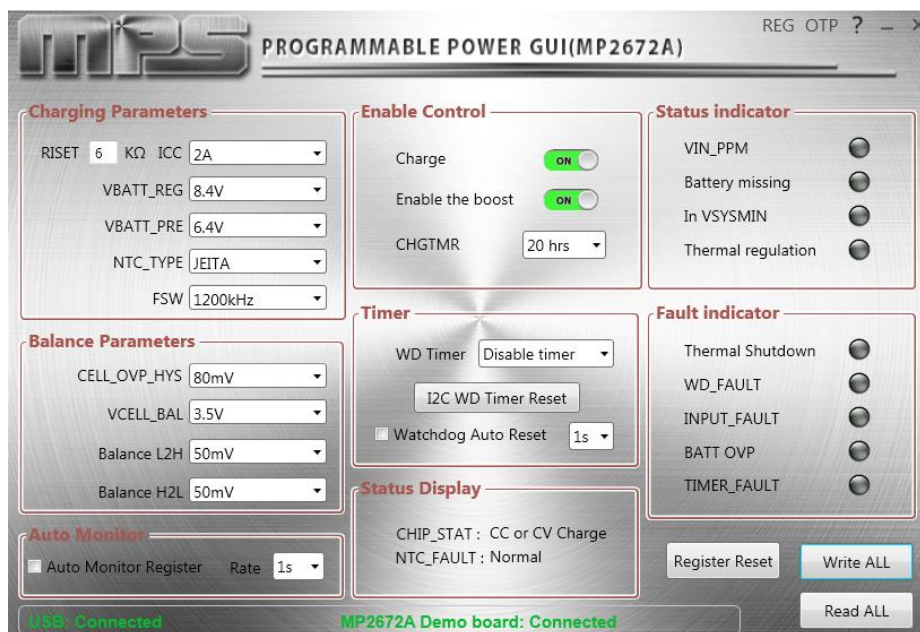

Figure 7: Connected EVKT-USB12C-02 and MP2672A Demo Board
- If the connection is successful, both the EVKT-USB12C-02 and MP2672A demo board statuses will be listed as “Connected” in green (see Figure 7).
2. Click the “Read All Registers” button to read the I²C register values. The default values should be displayed (see Figure 7).